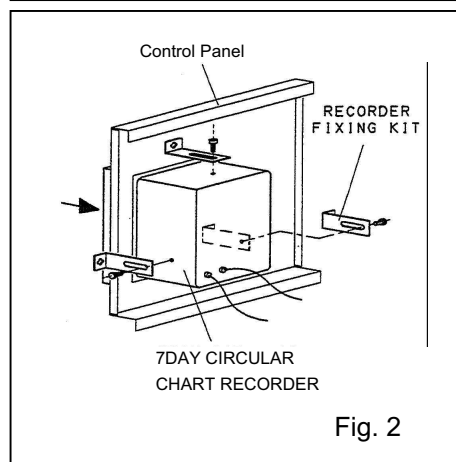

Fig. 2
6. As shown in Fig.2, secure the temperature recorder to the control panel using with the fixing kit.